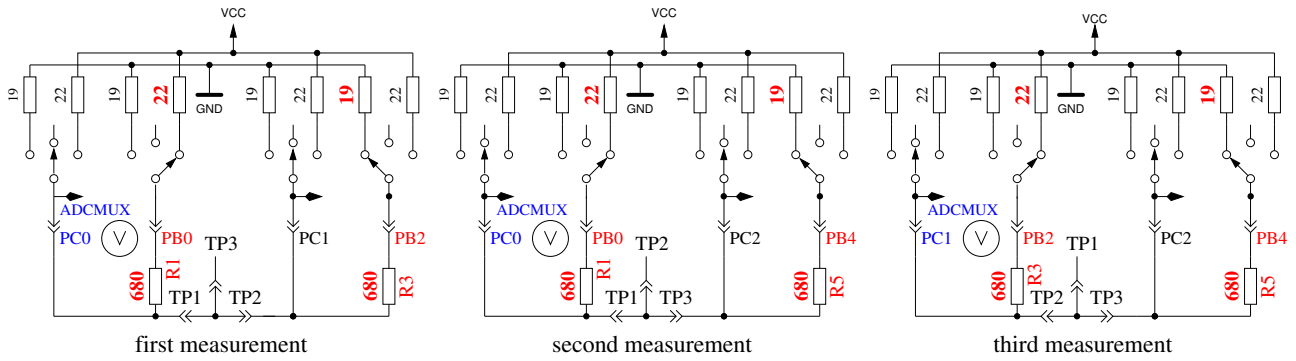

Figure 5.55. Comparison of 680Ω resistors
2. **Comparing of the 680Ω resistors.** In row 1 the cryptic text “+RL- 12 13 23” is shown. Meaning of this is as follows: The RL is the short form of Resistor Low meaning the 680Ω resistors. The 12 stand for: resistor at pin 1 is connected to VCC (+) and resistor at pin 2 is connected to GND (-). The result of this measurement is displayed in row 2 at the first place as difference to the theoretical value. In row 1 follows now a “13” which means, that the first connection of measurement 1 is still connected with 680Ω to VCC but that the resistor of pin 3 is connected to GND. The result is displayed in the middle place of row 2 as difference to the theoretical value. The last measurement of this test “23.” means that now the resistor at pin 2 is connected to VCC (+) and the resistor of pin 3 is connected to GND. The result of measurement is displayed at the last place of LCR row 2 as difference to the theoretical value. Please remember, that the resolution of the ADC is about 4.88mV! The measurement situation is also shown in figure 5.55. The theoretical value with respect to the internal resistance of the pins should be: